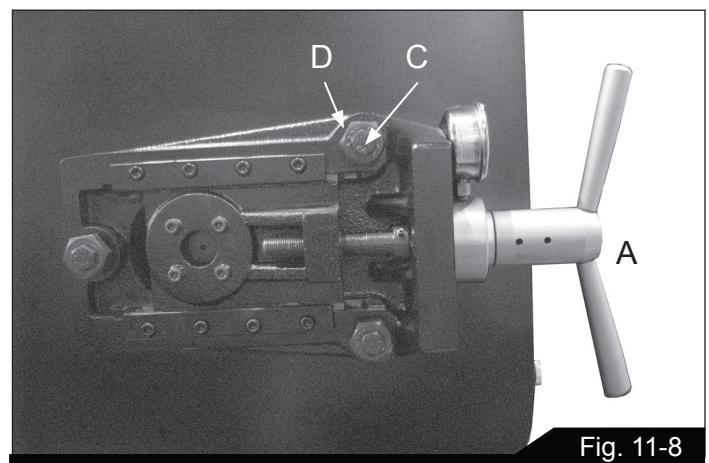

Fig. 11-8
2. Release blade tension using tension handle (see A, Fig. 11-8).
13. Turn handle (A, Fig. 11-8) to tension blade.
Turn handle (A, Fig. 11-8) clockwise to tighten the blade, or left to detension it for blade replacement.
3. Locate tracking adjustment bolts on the backside of the saw head behind the idler wheel (Fig. 11-8).
5. Loosen center screw (C, Fig. 11-8).
6. Turn adjustment screw (D, Fig. 11-8) until blade back is lightly contacting wheel flange. **Blade should not rub hard against the flange.**
7. When satisfied, shut off blade and tighten center screw (C) to secure setting. (Note: Hold adjustment screw with the wrench while tightening center screw to prevent further adjustment.)